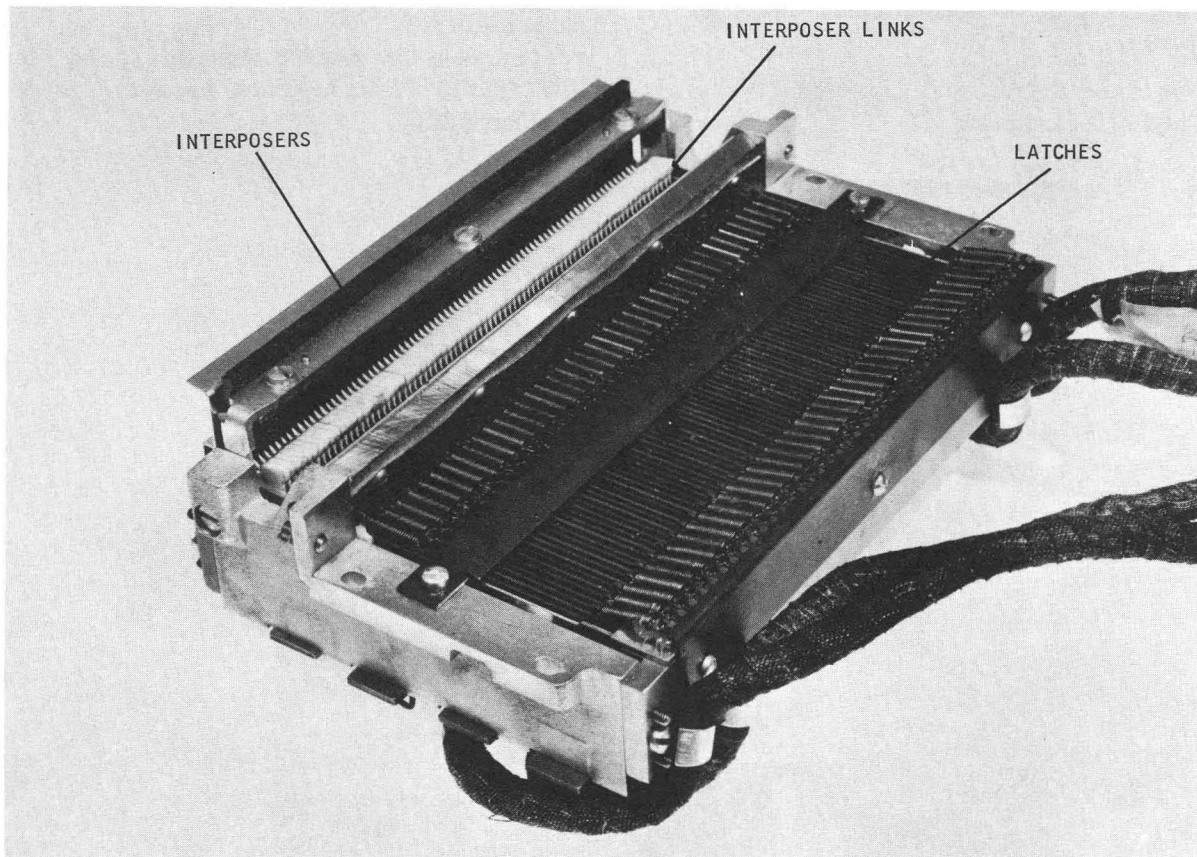

Figure 3-36. Magnet Unit
- Remove latch from magnet side of unit. It may be necessary to move latches next to the one being removed, in order to obtain sufficient room for removal. See Figure 3-36.
1. Position magnet unit as shown in Figure 3-36.